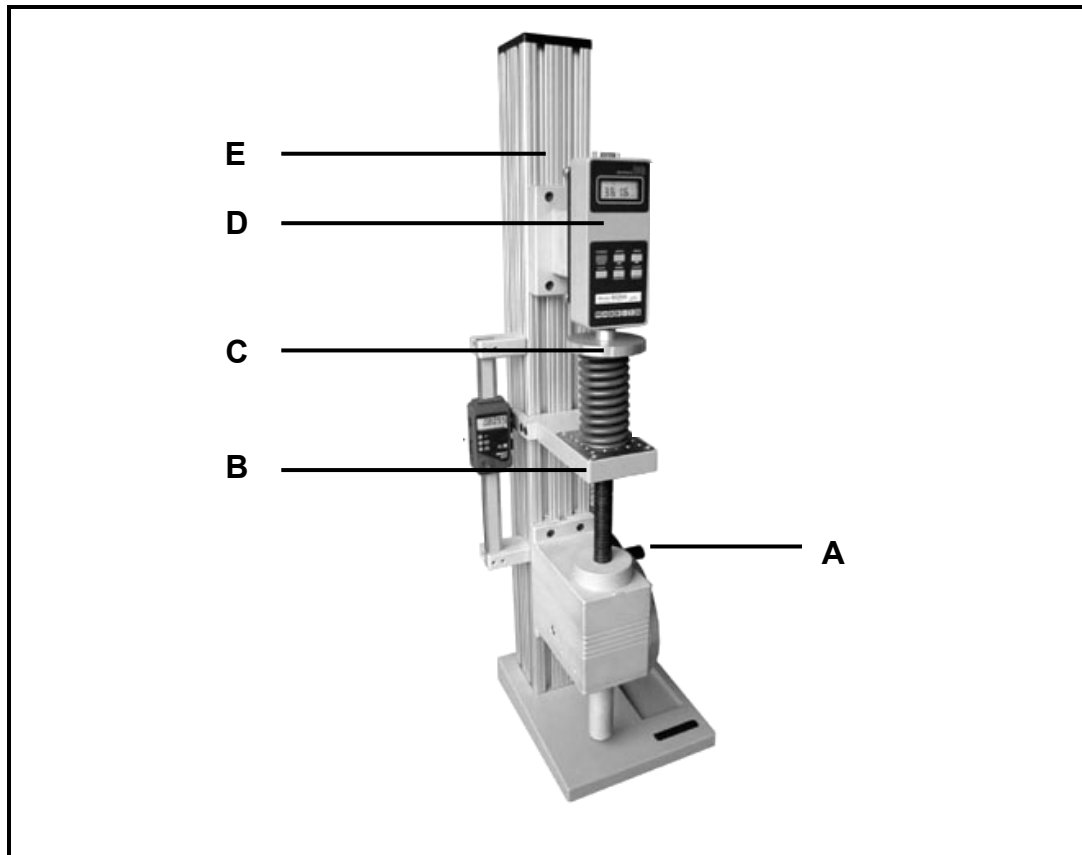

FIGURE 2.1
2.6 FIGURE 2.1 below shows a typical tester used in a mechanical workshop. Answer the questions that follow.
- 2.6.1 Identify the tester shown in FIGURE 2.1. (1)
- 2.6.3 State the purpose of the tester shown in FIGURE 2.1. (2)